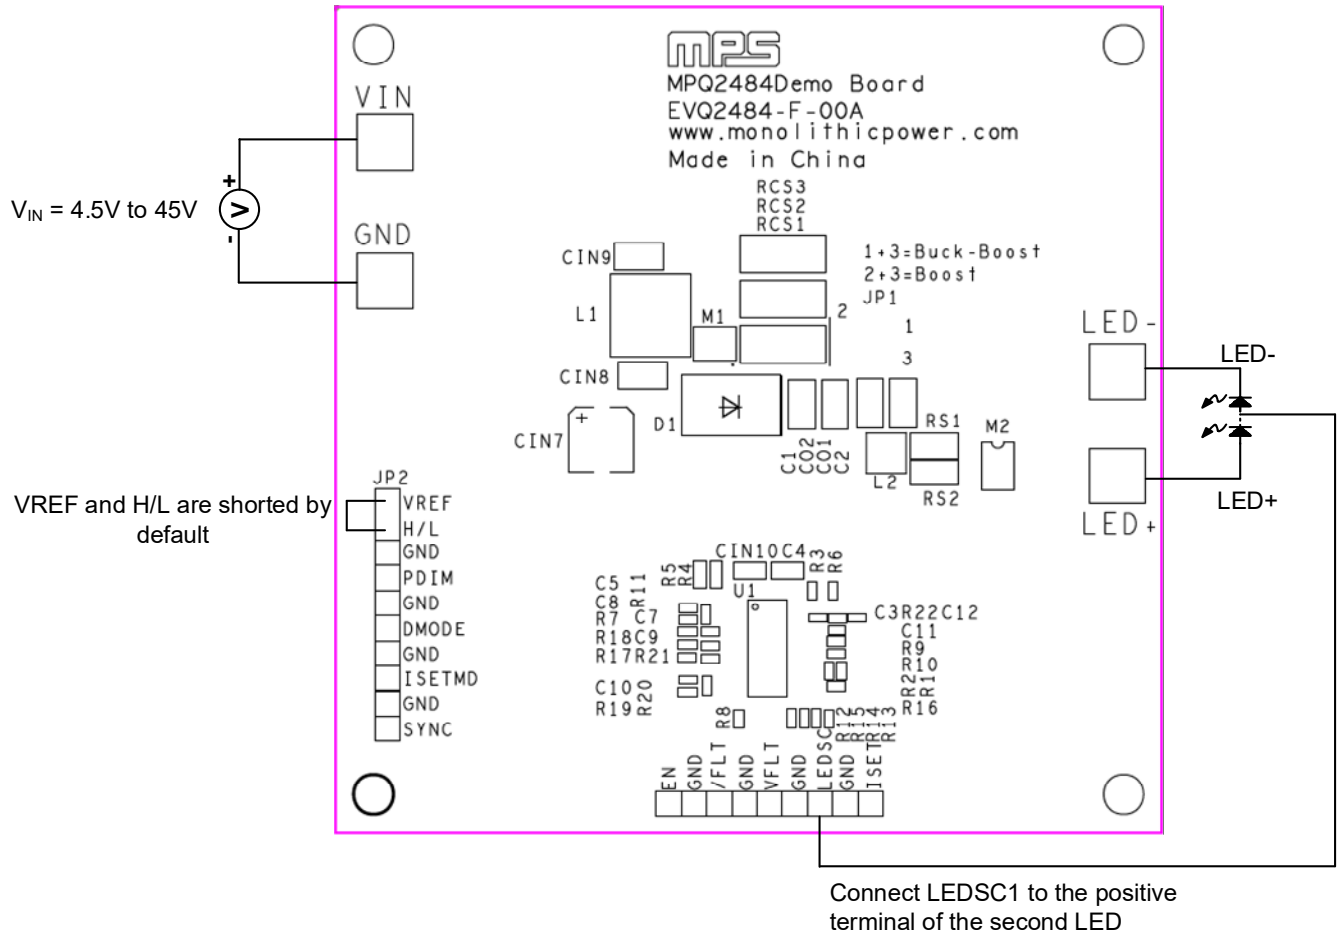

Figure 4: Measurement Equipment Set-Up
The EVQ2484-F-00A evaluation board is easy to set up and use to evaluate the performance of the MPQ2484-AEC1 and MPQ2484U-AEC1. For proper measurement equipment set-up, refer to Figure 4 on page 4 and follow the steps below:
5. Connect LEDSC1 to the positive terminal of the second LED (see Figure 4 on page 4). There should be one LED between LED+ and LEDSC1.
7. The external resistors (RS1 and RS2) connected between ICS+ and ICS- set the LED current (I_{LED}). Calculate RS1 and RS2 with Equation (1):
Figure 4 shows the measurement equipment set-up.